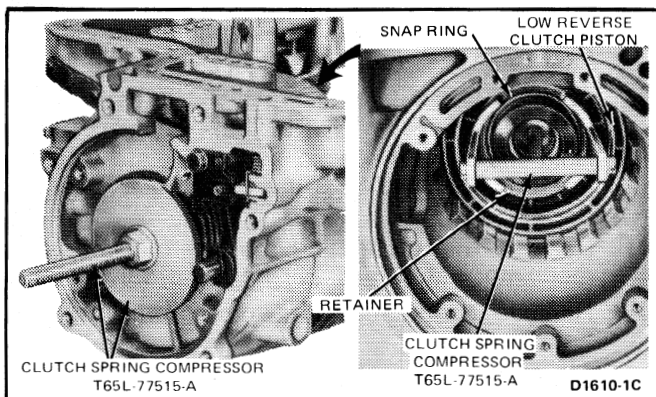

FIG. 23 Compressing Reverse Clutch Springs
21. Compress the reverse clutch piston release spring with Tool T65L-77515-A (Fig. 23). Remove the snap ring. Remove the tool and the springs and retainer assembly.
6. Install the compressing tool T65L-77515-A shown in Fig. 23 and compress the springs just enough to install the low-reverse clutch piston snap ring.